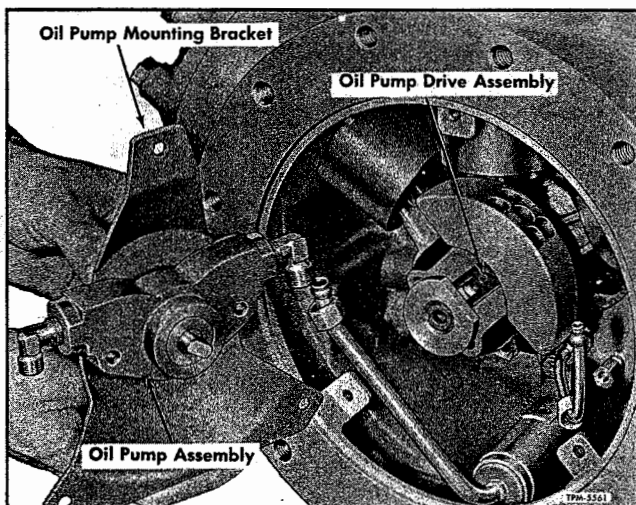

Figure 15—Oil Pump and Mounting Bracket Removed
rear of front axle (fig. 15, Section 3). If the under-floor air filter installed ahead of the evaporator is serviced frequently enough, there should be no maintenance required on the evaporator. However, if servicing the filter is neglected, some particles of dust, lint, etc. may pass through the filter; since the evaporator coils and fins are moist, these particles will cling to them. Dirt on the coils and fins acts as insulation and reduces the efficiency of the system, and when operating in humid climates, objectionable odors may develop caused by a mold-like formation or growth. In the event the evaporator does become dirty, it must be cleaned with steam or hot water and some cleaning agent which is not harmful to the aluminum tubes and fins. Since the location of the evaporator is not conducive to thorough cleaning in the vehicle, and considerable time is required for removing the evaporator for cleaning, the importance of cleaning or changing the air filter at frequent intervals should be impressed upon all maintenance personnel.
1. Disconnect oil line fitting nuts from elbow at each end of oil pump assembly (37).
2. Loosen only, the two hex head cap screws which attach oil pump assembly to the oil pump mounting bracket (35).
3. Remove the three cap screws which attach the oil pump bracket to compressor housing. Withdraw pump and pump bracket from compressor making sure oil lines are completely disengaged from elbows (fig. 15).